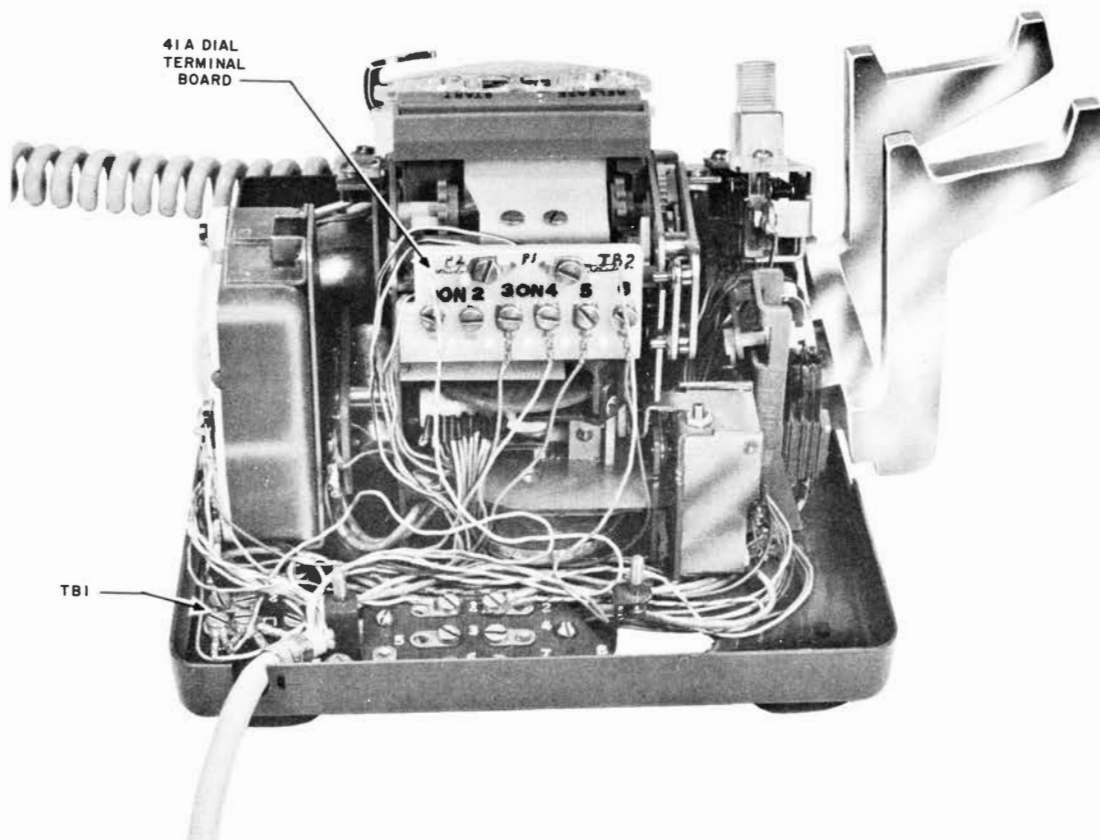

Fig. 4 - 660-Type Telephone Set, Terminal Boards
6. Mount terminal board to base with screws provided. (See Fig. 4.)